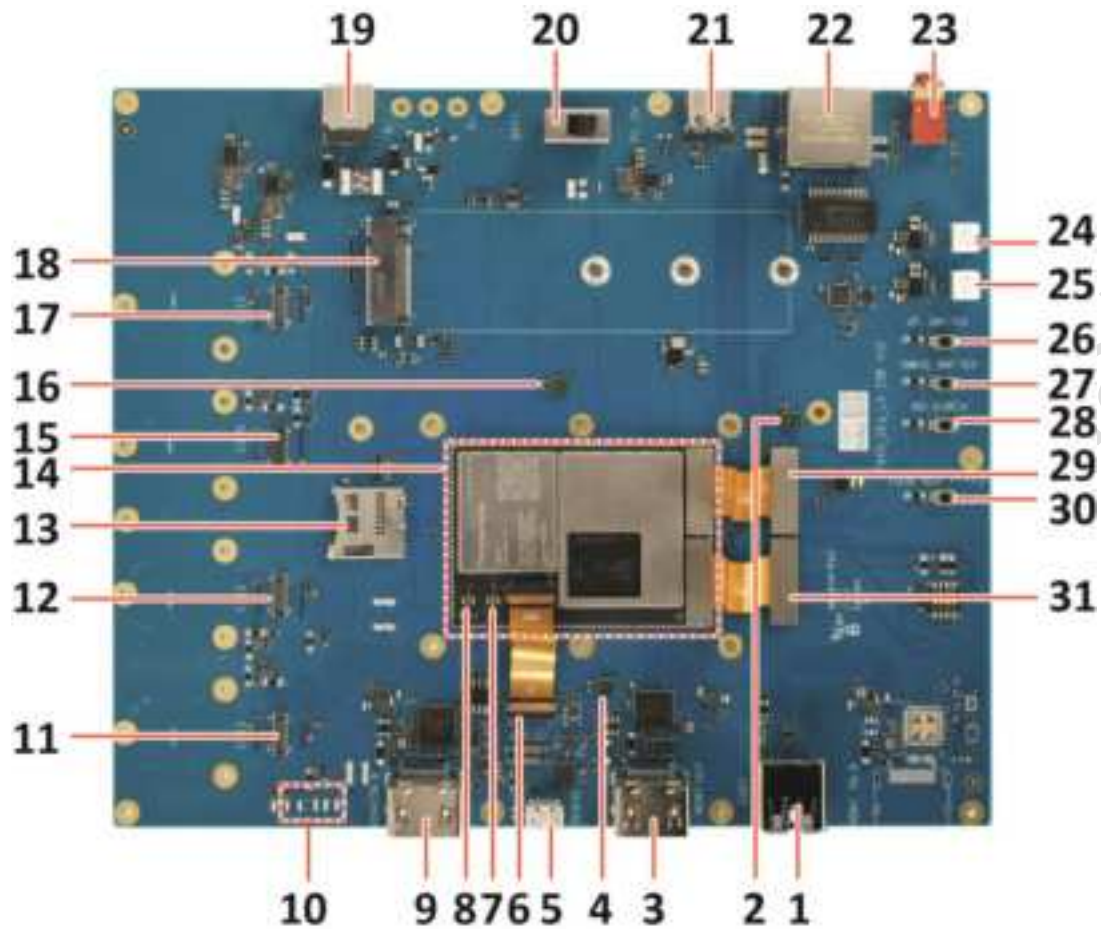

Figure 1-1. TurboX C865C Development Kit Top View
Step 1. Connect the device to your computer via **UART debug connector** (No. 5 in Figure 1-1).
Step 3. Turn the **Power switch** (No. 20 in Figure 1-1) to DC IN position to boot up the system and check the following log output.